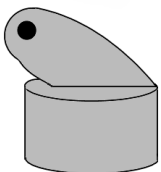

FIGURE 4
- End cap with hole for chain-link line poles (*figure 4*).
⇒ Place the end-cap (*figure 4*) over one end of the plain pole. Drill 3-4 holes through the cap and pole spaced evenly around the cap, and attach the cap to the pole with the self-tapping screws.